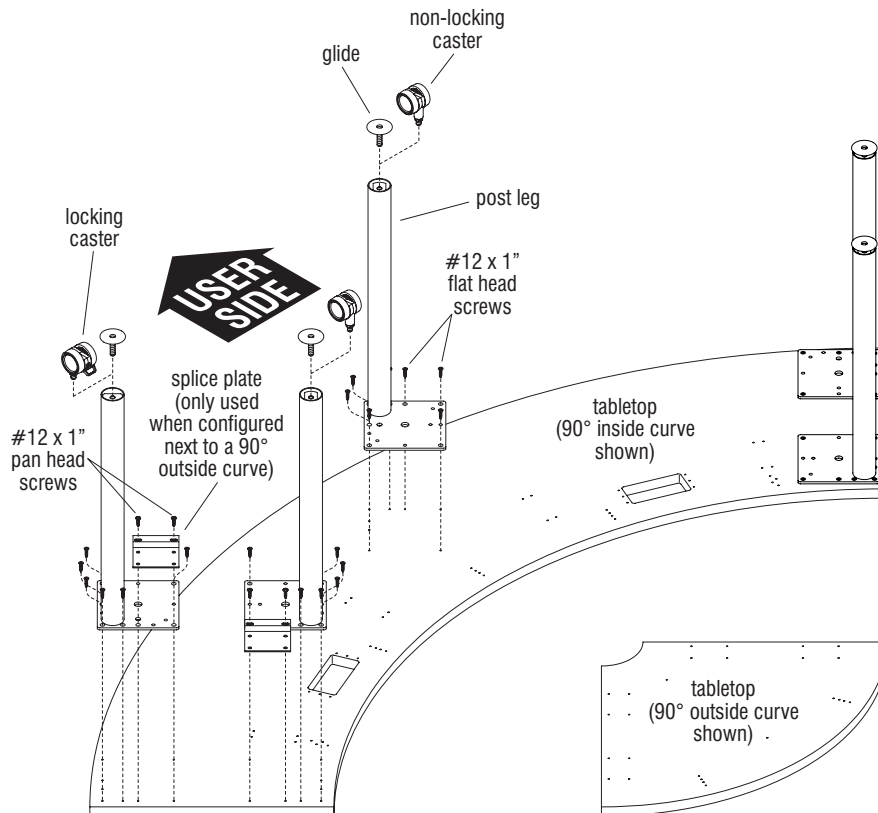

Figure 1
1. Carefully remove contents from shipping cartons and identify parts and hardware supplied. Place tabletop upside down on a soft, protective surface (Figure 1).
2. Position each post leg over pre-drilled mounting holes on the underside of the tabletop as illustrated. If the table being assembled requires splice plates to support a 90° outside curve tabletop, align the mounting holes on the splice plates with the mounting holes on the post legs as illustrated in Detail A, and secure with two #12 x 1" pan head screws per bracket. Secure the remaining holes on the post leg to the tabletop using six #12 x 1" flat head screws. If the table being assembled will not support a 90° outside curve tabletop in the final configuration, secure the post legs to the tabletop using eight #12 x 1" flat head screws through each base (Figure 1 & Detail A).
3. If the Pillar table being assembled will receive casters, locking and non-locking casters are provided. Locking casters shall be installed to the legs along the front, user side of the table, and non-locking casters shall be installed to the legs along the rear side of the table. Use a 19 mm open-end wrench to tighten casters to the foot of each leg (Figure 1 & Detail B).